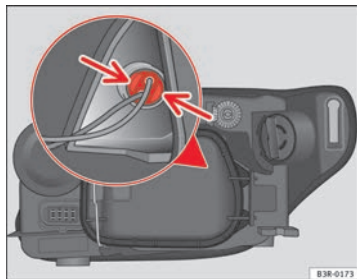

Fig. 201 Side light bulb (outside of vehicle)
- Gently press on the bulb holder tabs $\Rightarrow$ fig. 201 and pull the cover upwards (it can also be removed by pulling on the bulb holder wires).